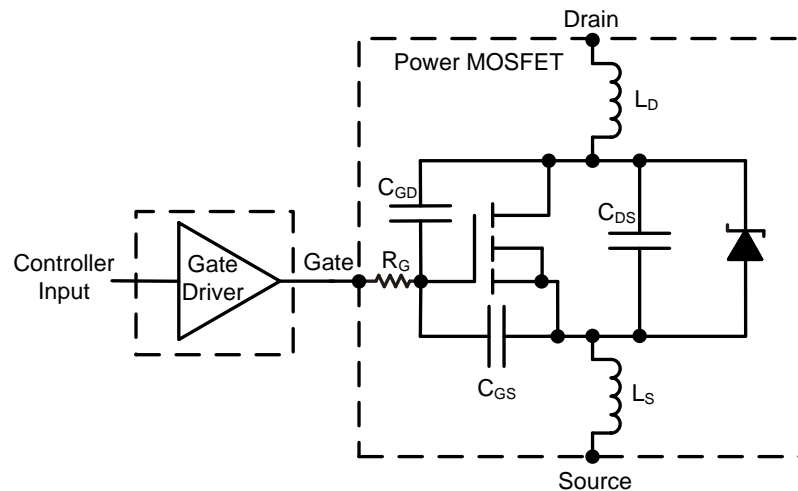
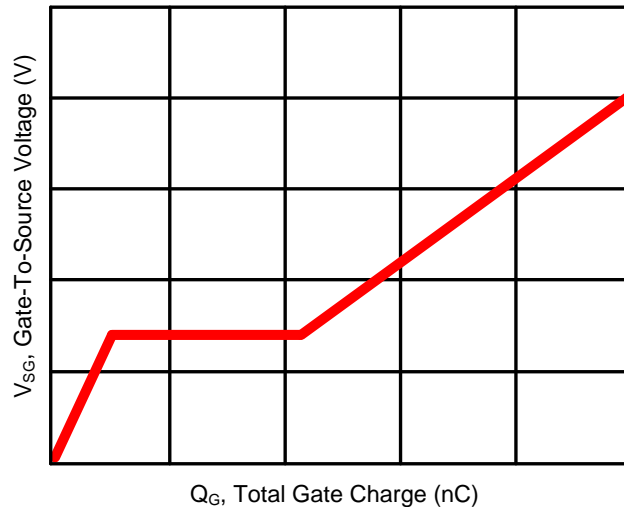

Figure 1. Simplified Model of a Non Inverting Gate Driver IC and a Power MOSFET
Figure 3. Power MOSFET Gate Drive Characteristics
Figure 1 shows the simplified model, including the parasitic components that influence high-speed switching, gate-to-source capacitance (CGS), the gate-to-drain capacitance (CGD), and drain-to-source capacitance (CDS). Values of the source inductance (LS) and drain inductance (LD) depend on the MOSFET's package. The other parasitic component is RG, the resistance associated with the gate signal distribution within the MOSFET that affects switching times. An important attribute for the gate driver is its ability to provide sufficient drive current to quickly pass through the Miller Plateau Region of the power-MOSFET's switching transition. This interval occurs when the transistor is being driven on or off, and the voltage across its gate-to-drain parasitic capacitor (CGD) is being charged or discharged by the gate driver. Figure 3 plots total gate charge as a function of the gate-drive voltage of a power MOSFET. Total gate charge (QG) is how much must be supplied to the MOSFET gate, to achieve full turn-on. It is usually specified in nanocoulombs (nC).